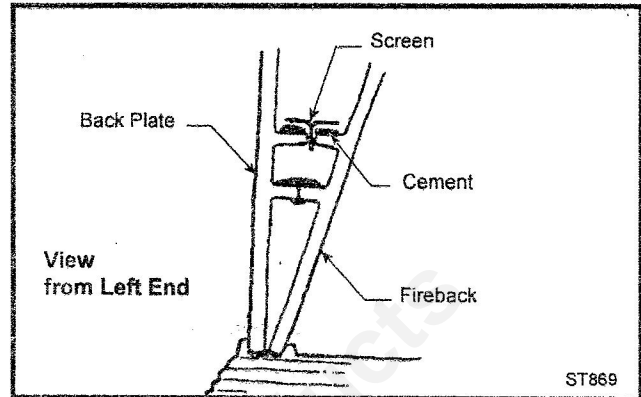

Fig. 11 Placement of screening and cement in secondary air tube.
On the inside of the back plate, there are two (2) ribs which make up half of the secondary air tube. (Fig. 11)
Lay 24" screen, supplied with materials, on the top rib as shown in Figure 11. Press the screen into the cement so the extension of the "T" fits between the top ribs of the back plate and the fireback. Add more cement to make a tight seal. You can use the putty knife as a paddle to smooth the cement along the top of the secondary air tube. Run the 1/2" x 1" x 36" piece of wood inside the